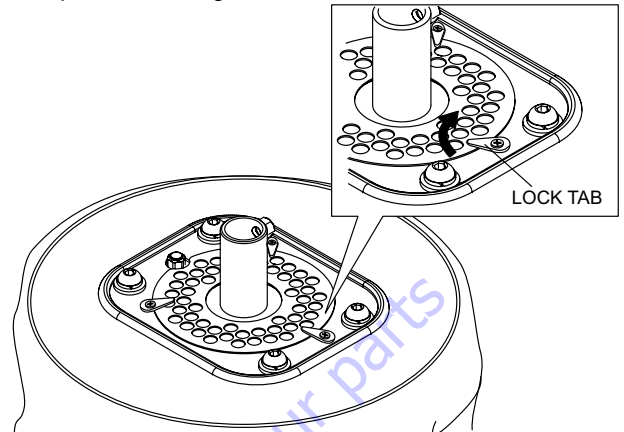

Figure 36. Locking Air Plate
6. Turn the three locking tabs inwards to lock the air plate in place. See Figure 36.